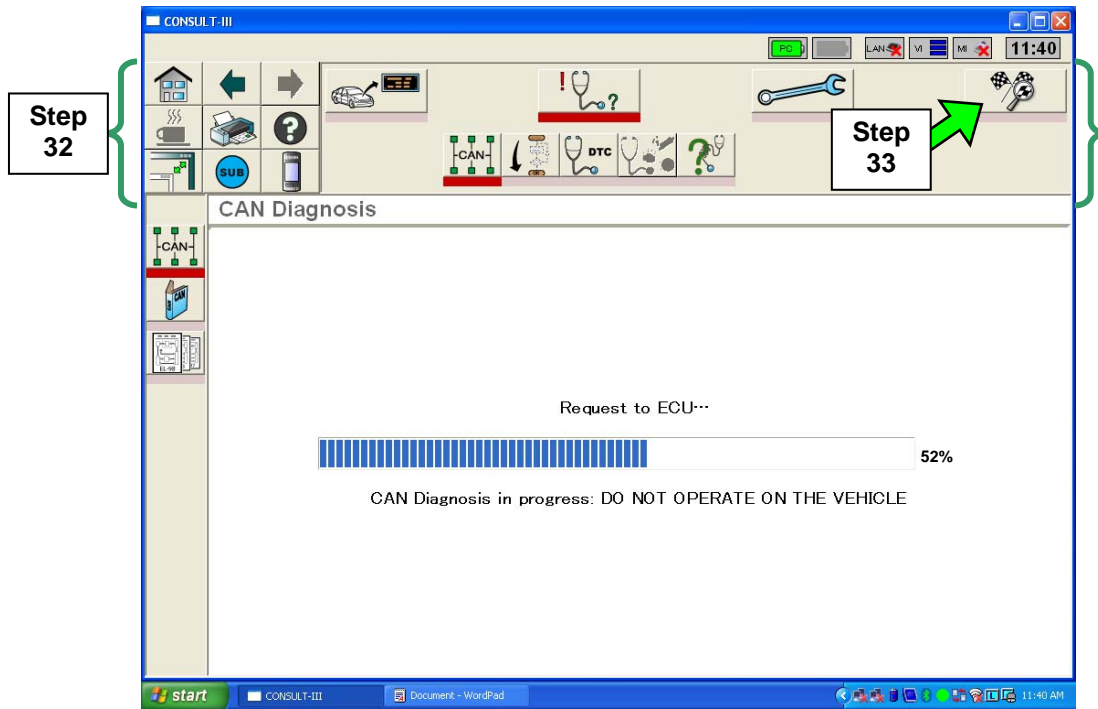

Figure 16
32. Wait for System Call to complete and CAN Diagnosis to reach 51% (see Figure 16 for example).